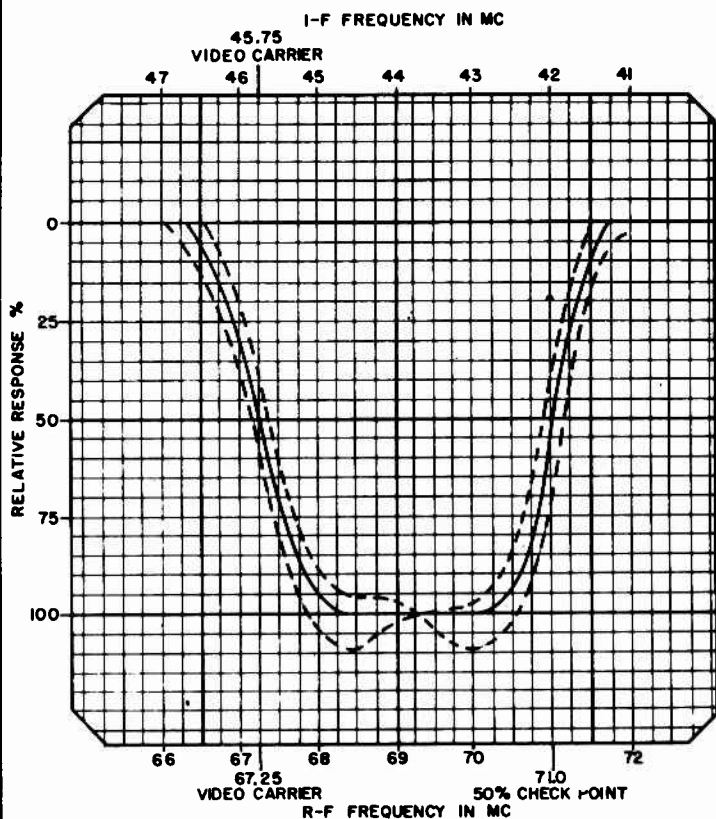

Figure 9. Over-all R-F, I-F Response Curve
6. If the response curve does not fall within the limits, as shown in figure 9, the adjustment of the trimmers may be touched up slightly, while observing the response curve. Do not retouch the setting of C201, C203, or C206. To adjust the curve, first adjust C215 and C218 alternately until maximum improvement has been obtained. C215 affects the tilt